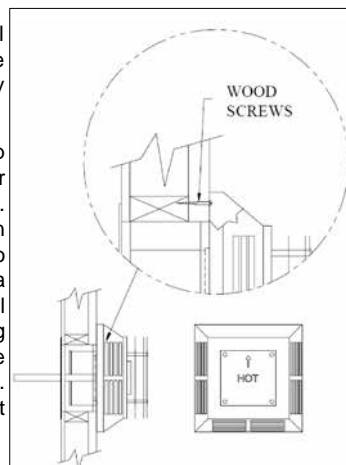

Figure 36: Fastening Horizontal Termination Cap in Place.
- (1) Any horizontal run of vent must have a ¼ inch (6mm) rise for every 1 foot (305mm) of run towards the termination. Never allow the vent to run downward. This could cause high temperatures and may present the possibility of a fire.
- (2) The location of the horizontal vent termination on an exterior wall must meet all local and national building codes, and must not be easily blocked or obstructed. Termination clearances must comply with the Vent Termination Restrictions section.
- Step 4.** For a Square Horizontal Vent Termination, place the vent cap in the center of the square hole and attach to the exterior wall with the four wood screws provided (refer to Figure 36). Before attaching the Vent Termination to the exterior wall, run a bead of non-hardening sealant around its outside edges, so as to make a seal between it and the wall. If you are using a Round Horizontal Vent Termination, place an exterior Wall Firestop over the square hole. Run a bead of non-hardening sealant around the edges of the Wall Firestop, and attach the Wall Firestop to the wall with the four wood screws provided. The arrow on the vent cap should be pointing up. Ensure that proper clearances to combustible materials are maintained.